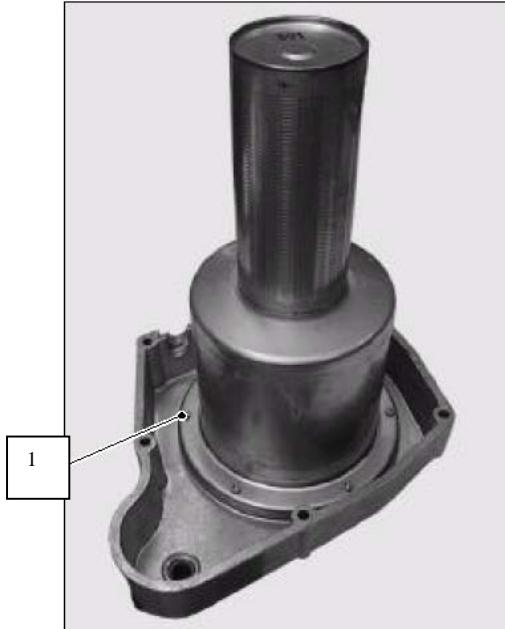

Fig. 12
- 6 To remove the burner from the condensate collector unscrew the Allen Key screws D (Fig. 12).